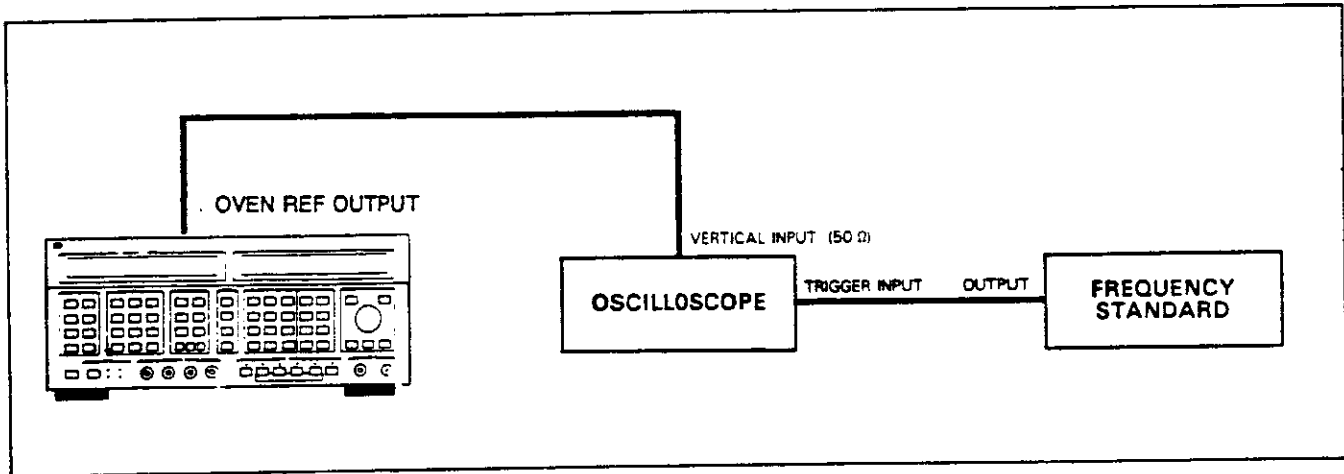

Figure 9-1. Timebase Adjustment Setup
3. Connect the equipment as shown in figure 9-1.